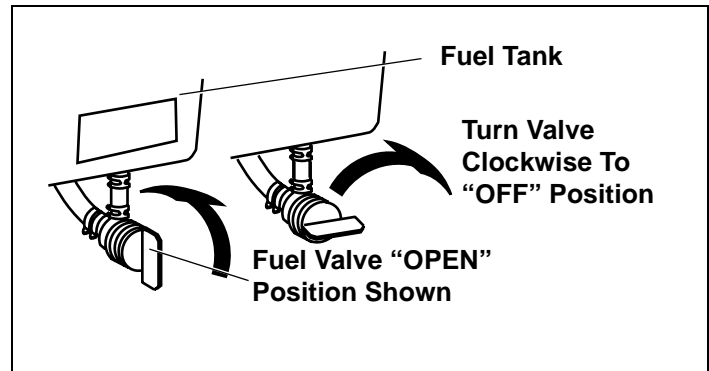

Figure 19. Fuel Valve Positions
- Be sure fuel valve, if present (see equipment manufacturer's instructions) is open and all switches are on. See Figure 19.